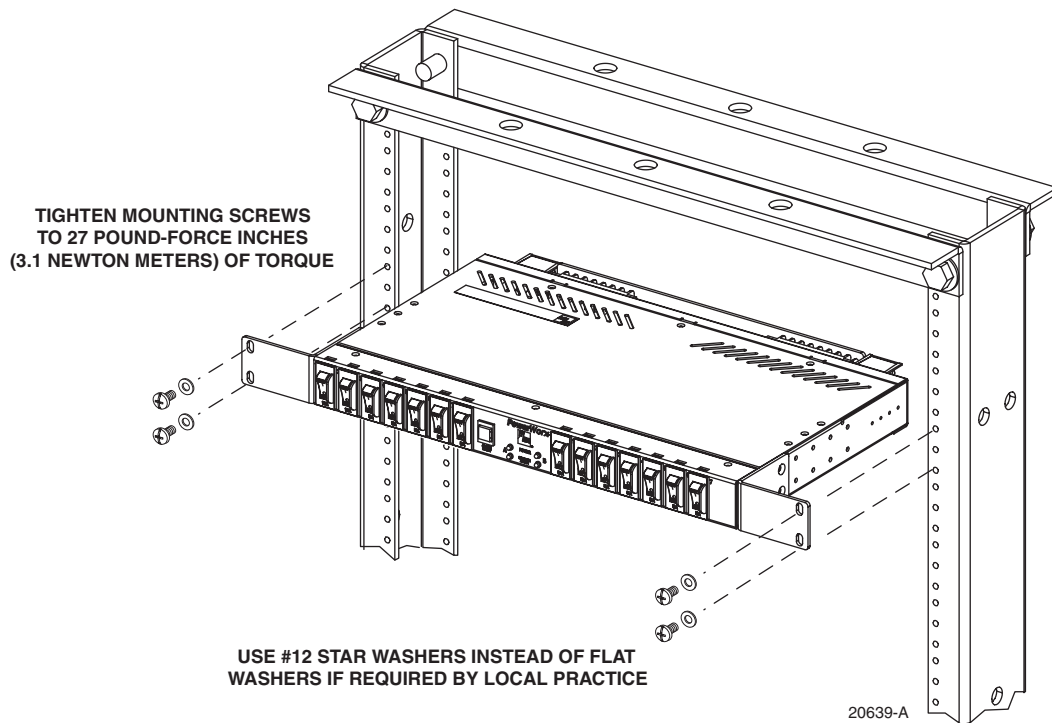

Figure 13. Mounting Panel on Rack
3. Place the circuit breaker panel in the specified mounting space within the rack as shown in Figure 13.